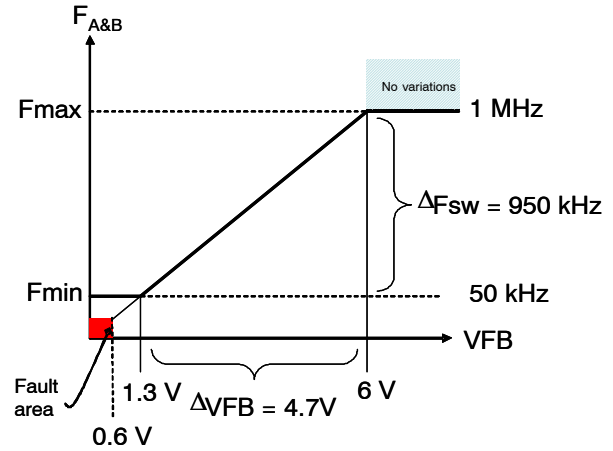

**Figure 34. The OPAMP arrangement limits the VCO internal modulation signal between 0 and 5.0 V.**
The designer needs to program the maximum switching frequency and the minimum switching frequency. In LLC configurations, for circuits working above the resonant frequency, a high precision is required on the minimum frequency, hence the  $\pm 3\%$  specification. This minimum switching frequency is actually reached when no feedback closes the loop. It can happen during the startup sequence, a strong output transient loading or in a short-circuit condition. By installing a resistor from pin 1 to AGND, the minimum frequency is set. Using the same philosophy, wiring a resistor from pin 2 to AGND will set the maximum frequency excursion. To improve the circuit protection features, we have purposely created a dead zone, where the feedback loop has no action. This is typically below 1.3 V. Figure 34 details the arrangement where the *internal* voltage (that drives the VCO) varies between 0 and 3.6 V. However, to create this swing, the feedback pin (to which the optocoupler emitter connects), will need to swing typically between 1.3 V and 6.0 V.
As shown in Figure 34, the *internal* dynamics of the VCO control voltage will be constrained between 0 V and 3.6 V, whereas the feedback loop will drive pin 5 (FB) between 1.3 V and 6.0 V. If we take the external excursion numbers, 1.3 V = 50 kHz, 6.0 V = 1.0 MHz, then the VCO slope will then be  $\frac{1 \text{ Meg} - 50 \text{ k}}{4.7} = 202 \text{ kHz/V}$ .